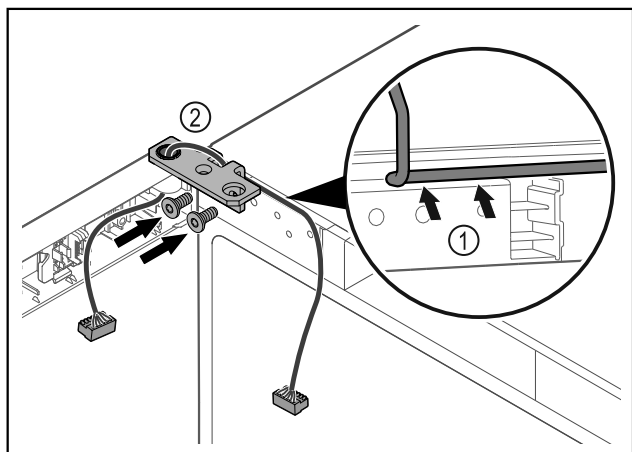

Fig. 58
- ▶ Feed the cable through the recess in the hinge and lay it carefully Fig. 58 (1).
- ▶ Screw on the hinge Fig. 58 (2).